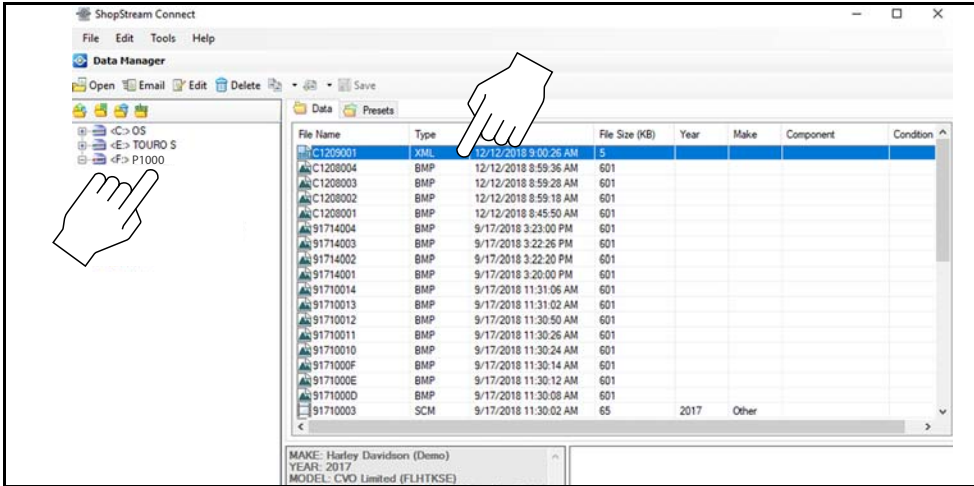
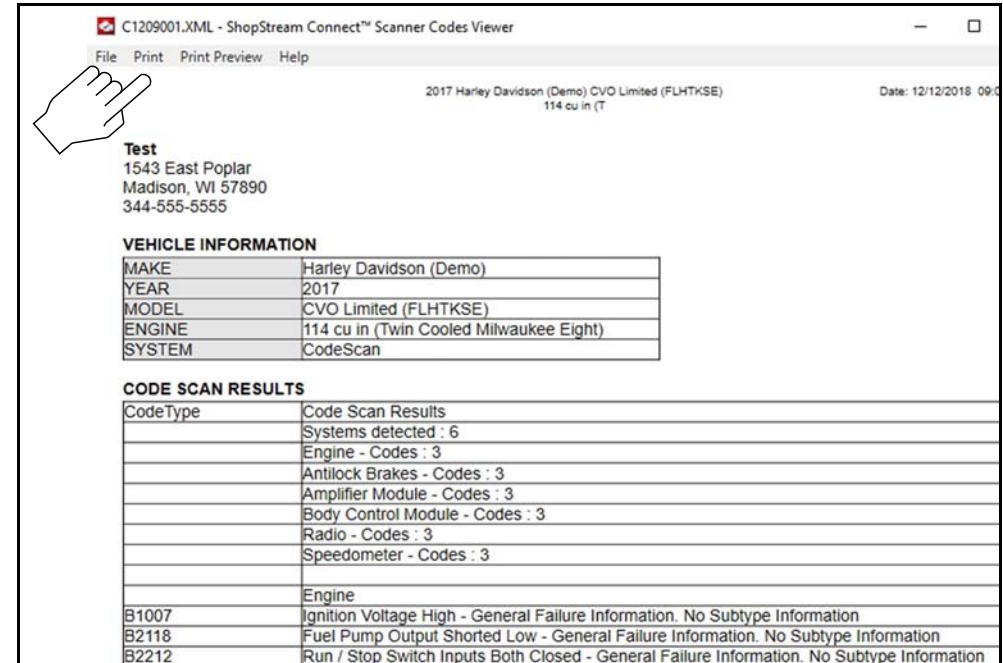

Figure 8-5
Figure 8-6
1. Double-click the code scan .XML file from the file list to open the Code Scan Report (Figure 8-5) in the Code Scan Viewer (Figure 8-6).
2. Select **Print** or **Print Preview** from the Code Scan Viewer menu to print or preview the report (Figure 8-6).